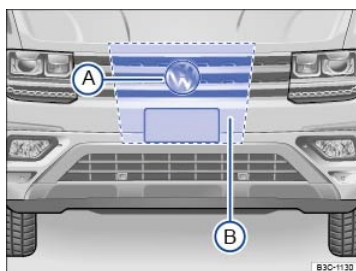

Fig. 139 In the radiator grill behind the Volkswagen emblem: Radarsensor (A) and the area around the sensor which should be kept free (B)
Vehicles equipped with ACC and Front Assist → *Forward Collision Warning (Front Assist)* have a radar sensor behind the Volkswagen emblem to monitor the traffic situation → Fig. 139(A). The sensor can detect moving vehicles up to about 130 yards (120 m) in front of your vehicle.
The area in front of and around the radar sensor → Fig. 139(B) must not be covered by objects such as stickers, additional headlights, non-standard license plate brackets, or other things, as these items can impair the function of the ACC and Front Assist systems.